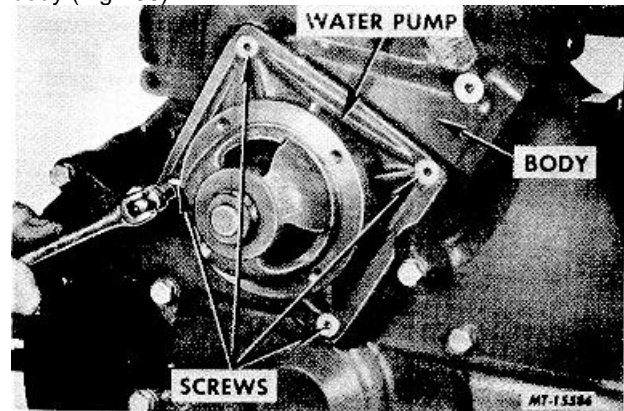

Fig. 56 Removing Water Pump
49. Remove water pump pulley capscrews and remove pulley from hub. Remove water pump mounting screws and remove water pump and gasket from water pump body (Fig. 56).